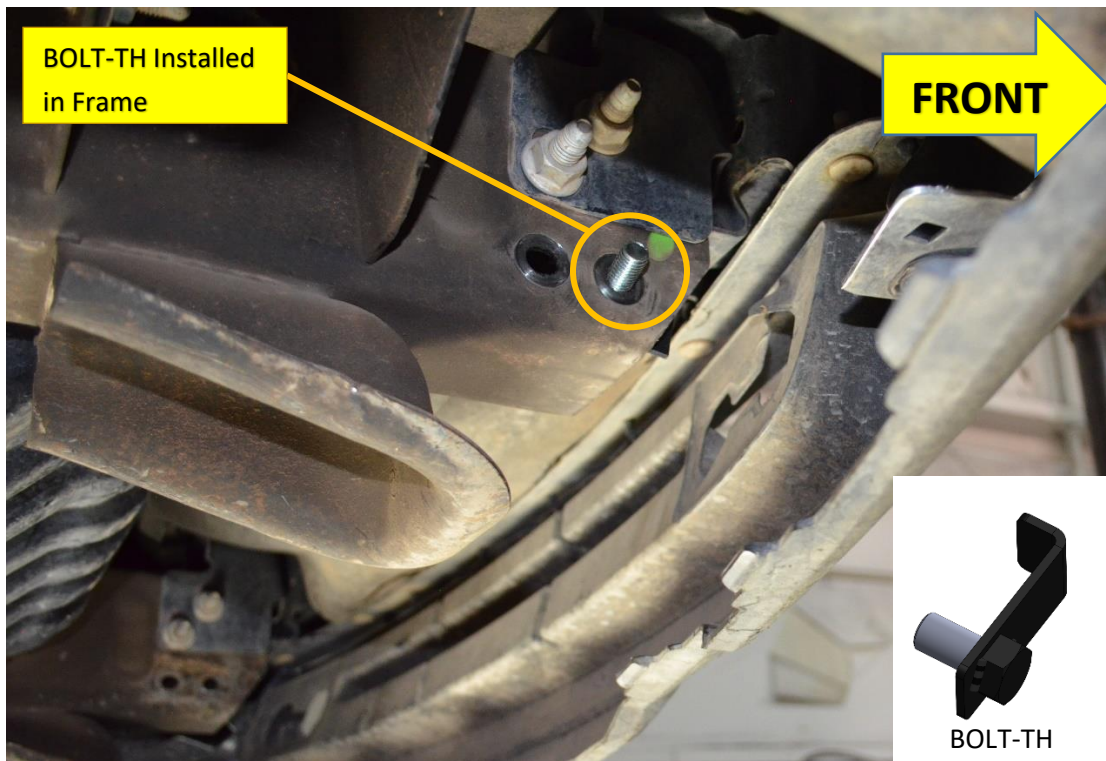

Figure 14 – BOLT-TH Installed in vehicle without OE Tow Hooks (Shown in Passenger Side frame rail)
9.4.4. IF **NOT EQUIPPED** WITH TOW HOOKS, Insert BOLT-TH into frame rails from front of vehicle and ensure threads are protruding to outside of vehicle, as shown in Figure 14 below.